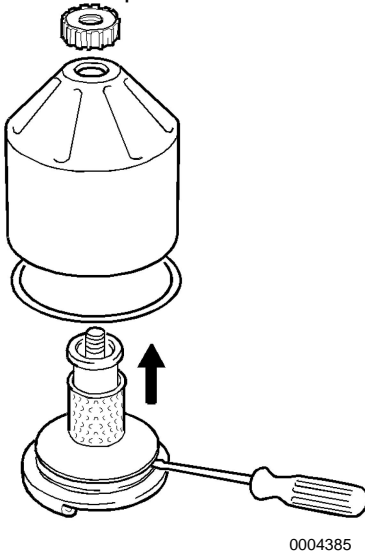

Figure 7
- Remove the strainer located on the rotor (**Figure 7**). If the strainer is stuck, use a screwdriver to carefully pry the bottom edge until it comes loose from the bottom plate.